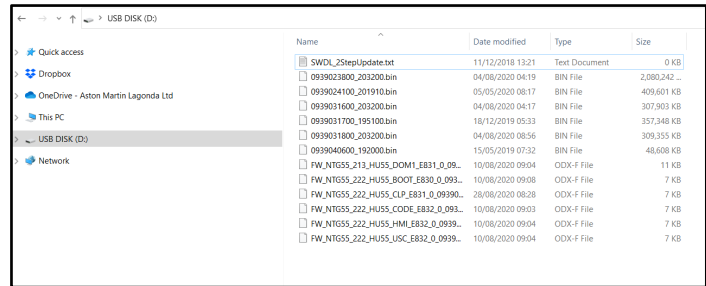

Figure 1
4. Copy the extracted files on to the USB device. (refer to Figure 1).